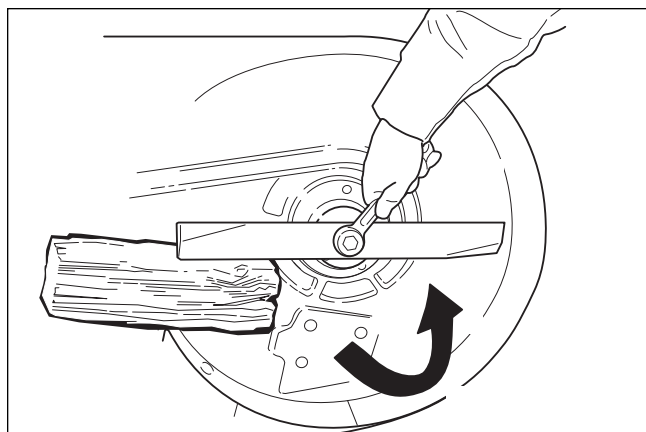

Figure 25. Loosening the Mower Blade for Removal
1. See Figure 25. To remove the mower blade, wedge a wooden block between the mower blade and the mower deck housing to keep the mower blade from turning, then remove the mower blade and the mower blade retaining hardware.